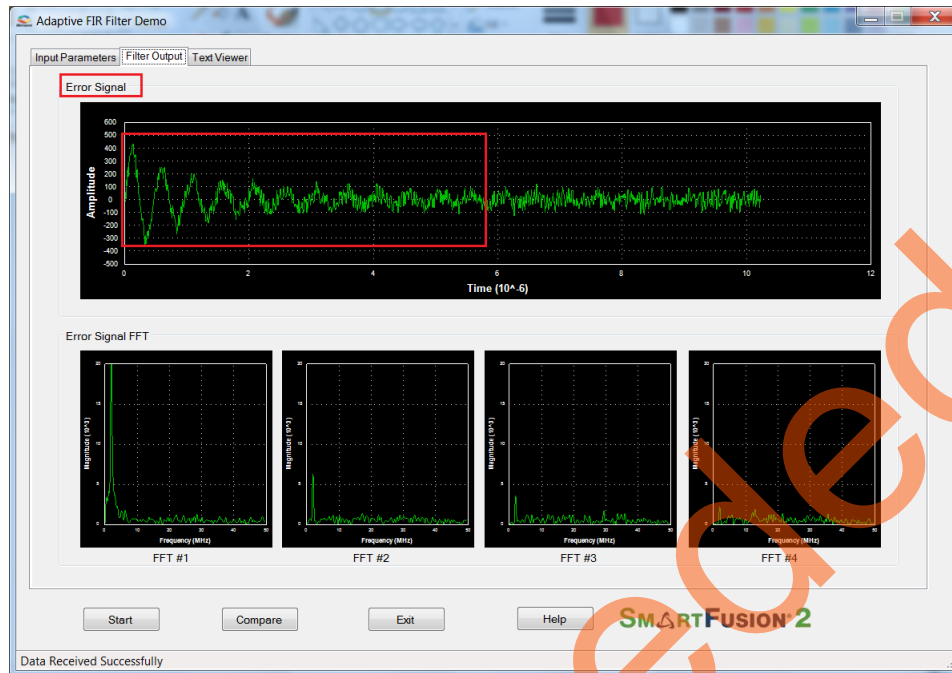

Figure 17 • Error Signal: Time and Frequency Plot
- After completing the filter operation, the GUI receives the error data and its FFT data from the SmartFusion2 device and plots as shown in Figure 17 on page 21. The error signal plot shows the suppression of narrow band component from the wide band signal only after the required number of iterations.